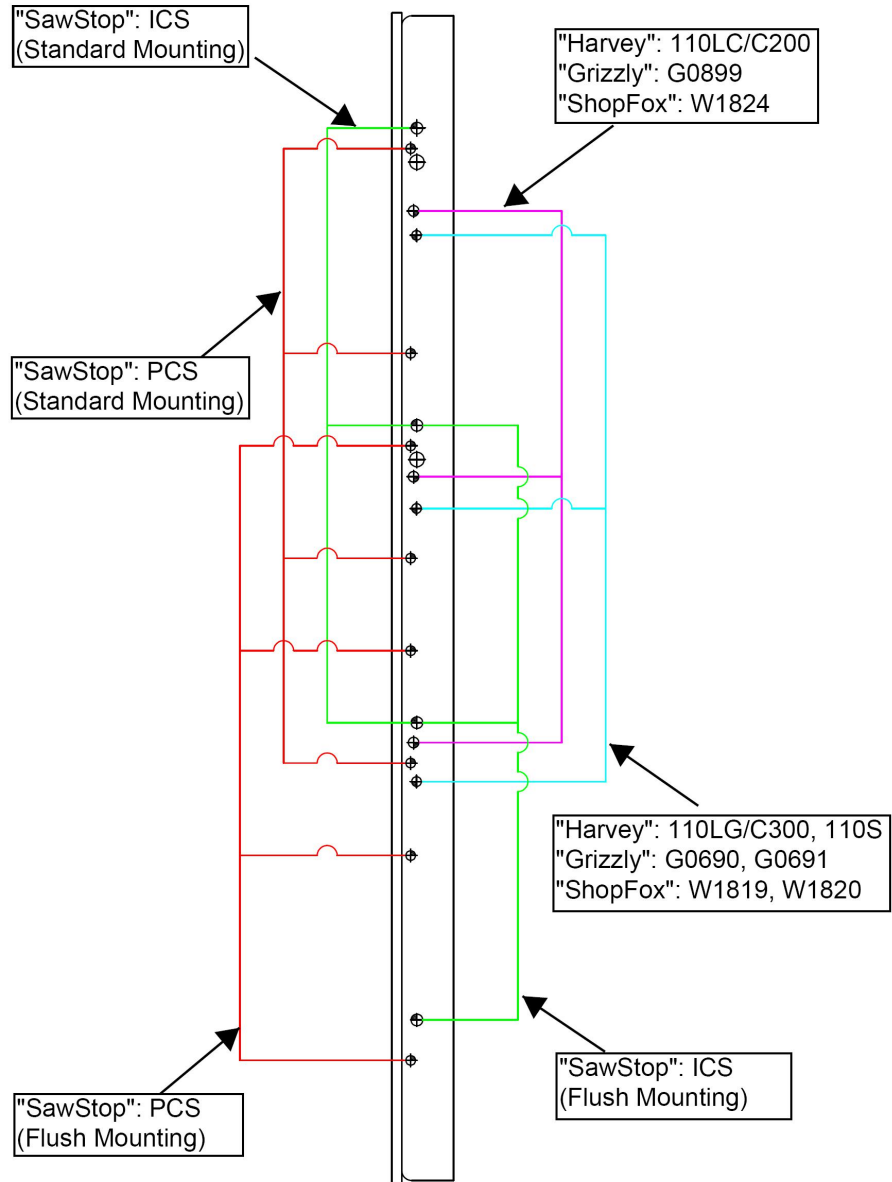

Fig.4
5. Referring to **Fig. 4**, confirm the right mounting holes for your table saw. Align the mounting holes, then thread two cap screws, lock washers, and flat washers through the sliding table into the mounting holes of the saw table side.